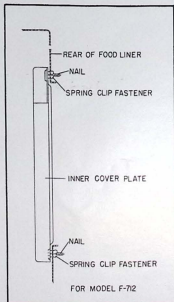

FIGURE 2 — Inner Cover Plate Mounting
6. Remove the insulation to uncover the inner cover plate mounting nails, and spring clip fastener, located as shown in Figure 2. To release the fasteners remove the nail, preferably by pushing it out from the rear.